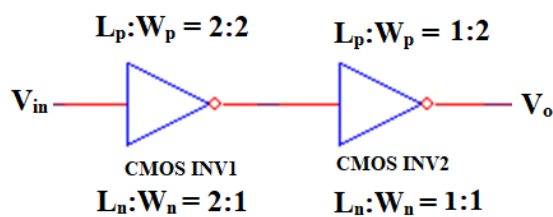

Figure 1C
- 1C. Estimate the CMOS inverter pair delay for the circuit arrangement shown in Figure 1C for the rising and falling input. Given that $R_n = R_p = 1R_s$ and INV2 drives the capacitive load that is equal to capacitive load seen by INV1.